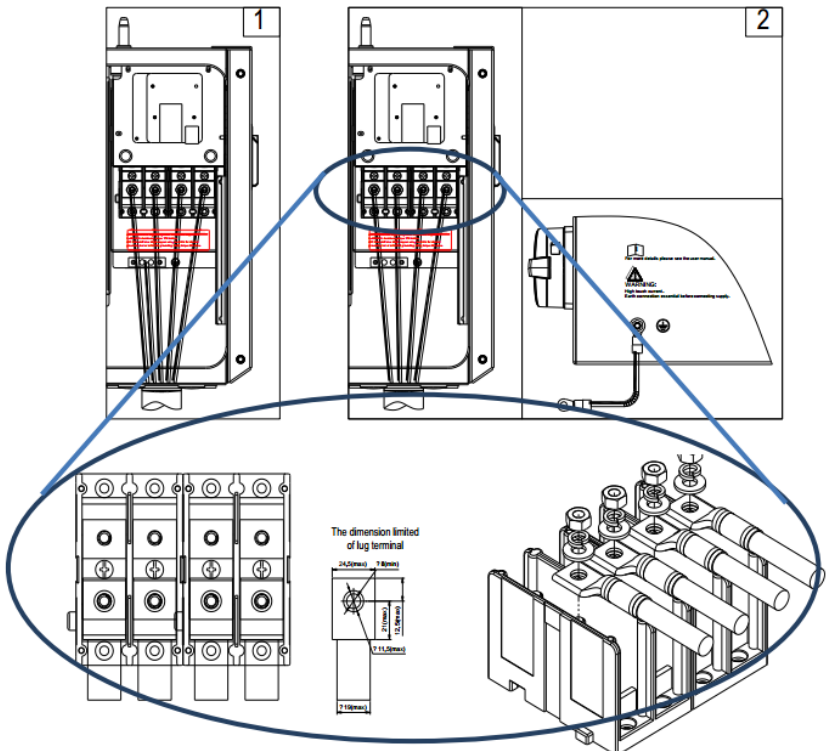

Figure 3-29 AC Output and Ground Cable Connection
2. Grounding/Bonding. The inverter provides 1 grounding connection on the AC side and one bonding location. These configurations are illustrated below (Figure 3-29).